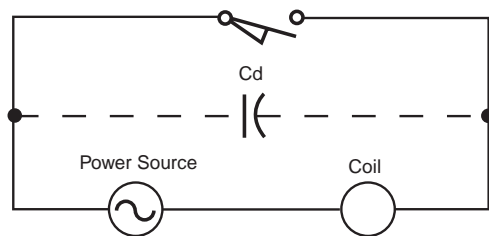

Figure 1: Control Device
To determine if the effects of the shunt capacitance of the control wires must be considered, refer to Figures 1 and 2.
If the control device is remote (see Figure 1), and the control circuit components are arranged so that the power source is adjacent to the device coil, the **distributed wire capacitance** will be in parallel with the control device (STOP button) and **must be considered**. Under these conditions, it is sometimes necessary to limit the length of the control wires so that the distributed capacitance between the control wires does not exceed the maximum permissible value for the proper operation of the control circuit.
1. Determine whether the distributed wire capacitance is in parallel with the stop button (refer to Figures 1 and 2). If the capacitance is **not** in parallel with the stop button, the distributed wire capacitance need not be considered.